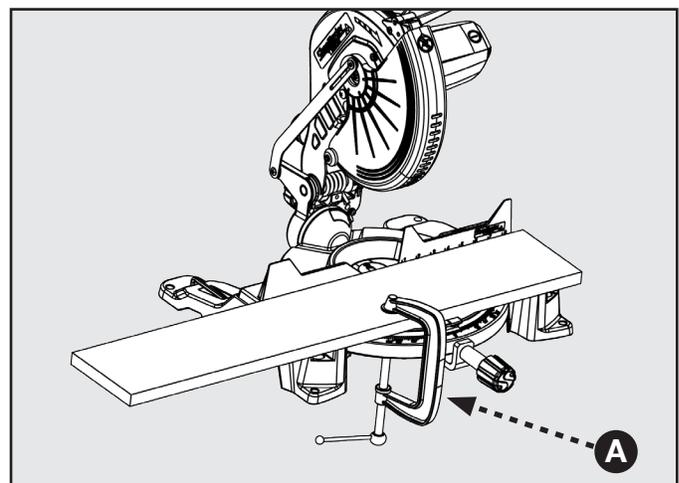

FIGURE 18
When cutting wide work pieces, such as 2 in. x 6 in., clamp the workpiece to the work table using a C-clamp (A) as shown in Figure 18.